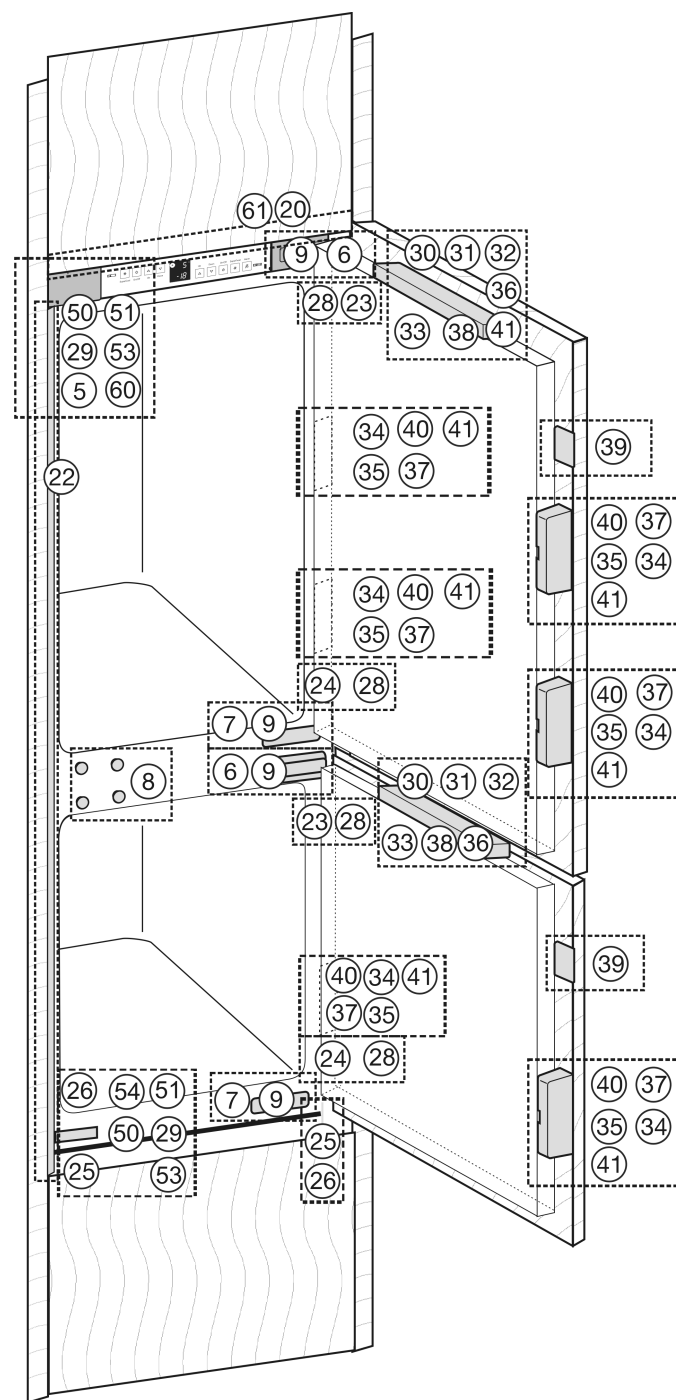
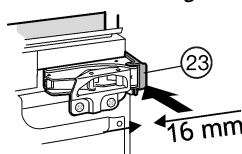
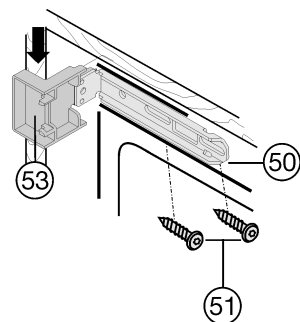
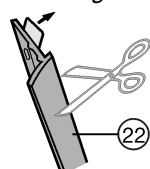

Fig. 12
Fig. 17
Fig. 18
Fig. 19
- Remove the covers *Fig. 12 (5,6,7).*
- Clip a spacer *Fig. 17 (23)* onto the upper hinges and a spacer *Fig. 12 (24)* onto the lower hinges.
- Attach the top and bottom covers *Fig. 18 (53)* to the mounting brackets *Fig. 18 (50).*
- Fasten the mounting brackets *Fig. 18 (50)* at the top and at the bottom with screws *Fig. 12 (51)* such that the bracket can still be moved slightly to the left and to the right.
- Remove the protective film from the trim *Fig. 19 (22)*. Attach the trim *Fig. 19 (22)* on the handle side and flush with the front to the projecting edge of the cover *Fig. 18 (53)* and glue to the sidewall of the appliance.
- If necessary, shorten the trim *Fig. 19 (22)* at the bottom: The trim *Fig. 19 (22)* has to end 1/8 " (3 mm) above the upper edge of the bottom mounting bracket *Fig. 12 (50).*
- Slide in the appliance until the covers *Fig. 18 (53)* abut *Fig. 18* against the side wall of the kitchen unit.
- Allow for the additional distance (depth of door stop components). Allow the hinges and the covers *Fig. 18 (53)* to protrude by the additional distance.
- Adjust the adjustable feet *Fig. 12 (25)* with the supplied open-ended wrench *Fig. 12 (26)* to align the appliance vertically.